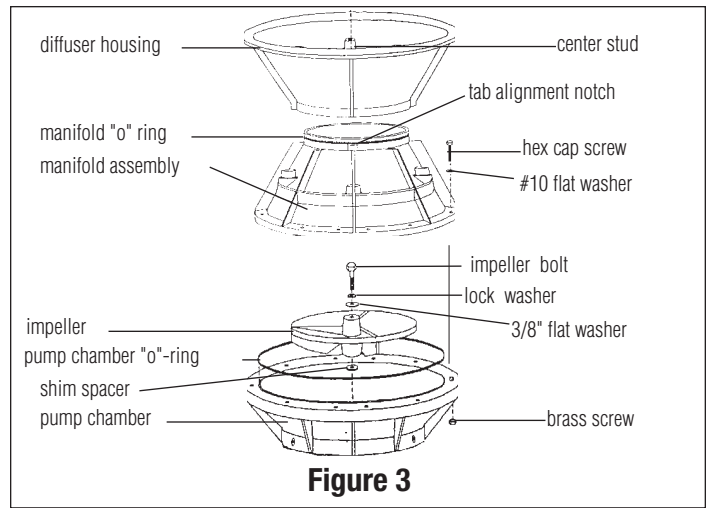

Figure 3
2. Remove the (8) hex cap screws from the manifold. Lift the manifold away from the pump chamber. See Figure 3.
3. Remove the "o" ring and set aside. The impeller should be exposed. See Figure 3.
3. Reinsert the "o" ring into the groove in the pump chamber. Install the manifold onto the pump chamber with (8) hex cap screws. See Figure 3.
1. Align the diffuser housing with the manifold by locating the alignment tab and notch. See Figure 3 for details.